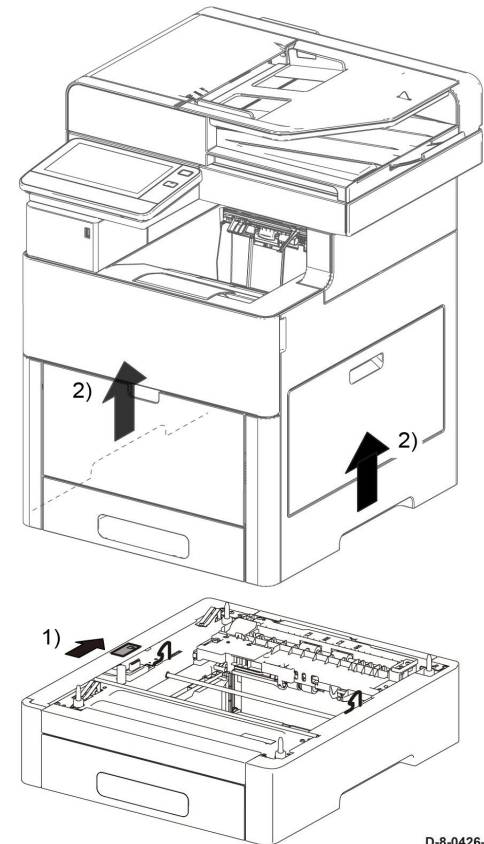

Figure 4 Separate optional feeder assembly from the printer
- Figure 4 Remove the optional feeder from the printer
2. Refer to Figure 4 to locate and toggle the slider switch to the unlocked position before separating the printer and optional trays.